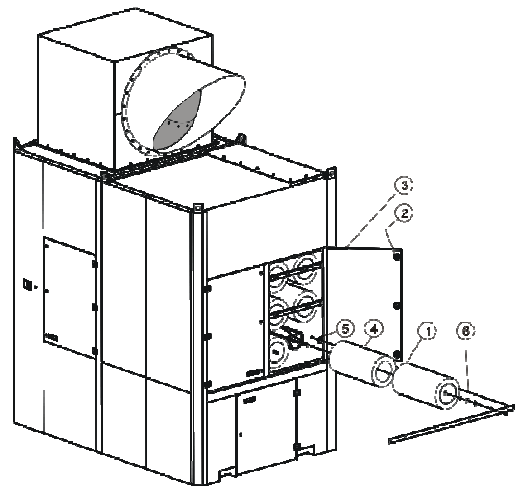
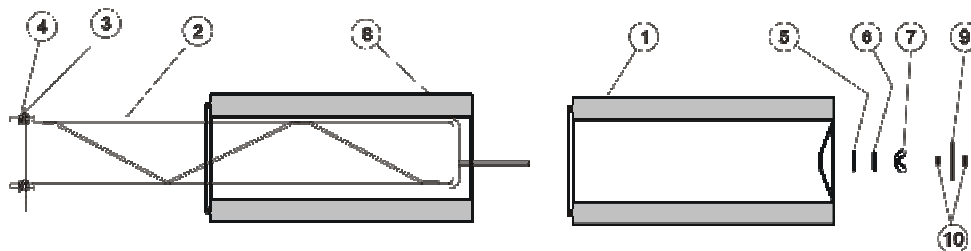

FIG. 21 FILTERING CARTRIDGES REPLACEMENT
FIG. 23 SCHEME OF FILTERING CARTRIDGES FIXING FOR SIZES Z-LINE 16,18,24
- b) For separators of sizes Z-Line 16,18,24 unscrew the cartridge position holder (Pos. 9, Fig. 23) from the holder (Pos. 5, Fig. 21).